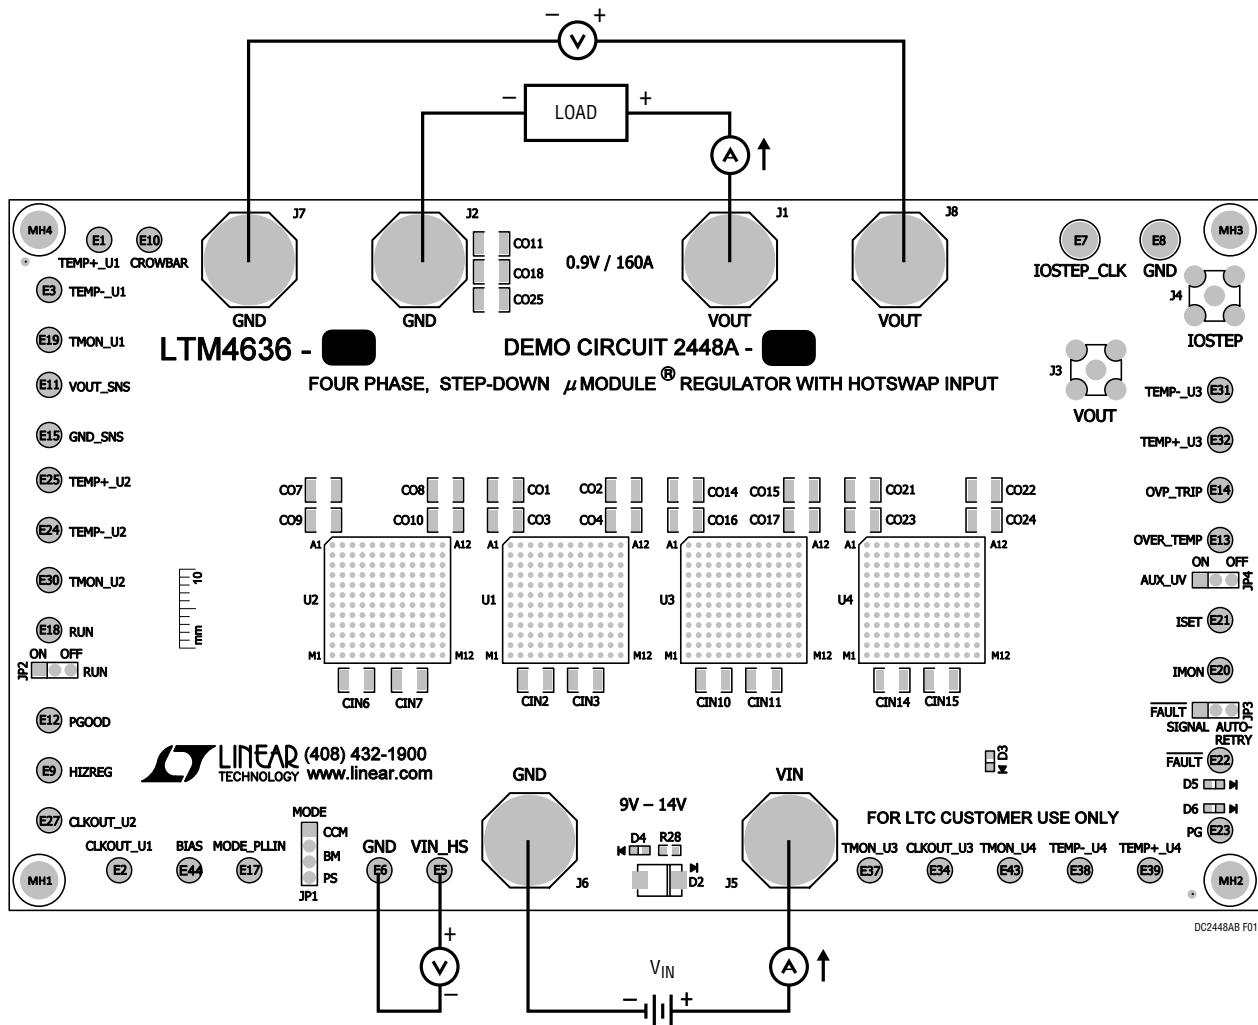

Figure 1. Measurement Setup of DC2448A-B
Demonstration circuit DC2448A-B is an easy way to evaluate the performance of PolyPhase operation of the LTM4636EY. Due to the high input/output current, the user should select the proper input supply/load/cable which can sustain the full load operation. Please refer to Figure 1 for proper measurement equipment setup and follow the procedure below:
2. With power off, connect the input power supply, load and meters as shown in Figure 1. Preset the load to 0A and  $V_{\text{IN}}$  supply to 12V.